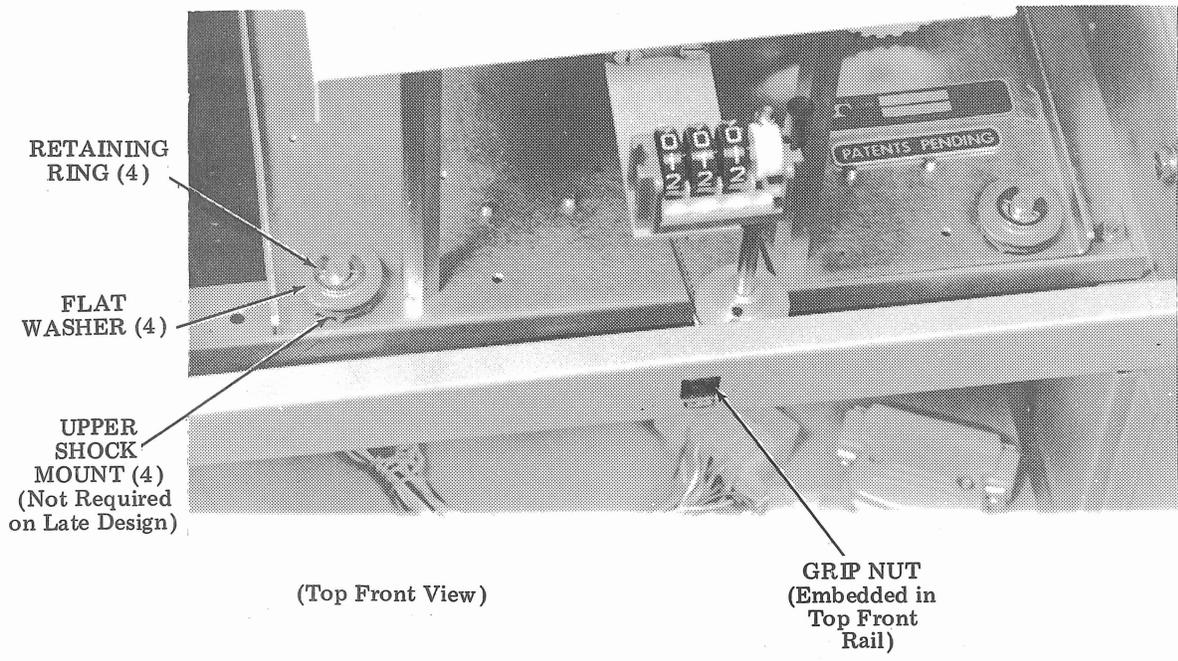

Figure 7 - Tape Transport Mounting Assembly; Top Cover Raised to Provide Access to Transport
→ (1) For stand-alone or 33/35/37/40 adjunct tape sets, remove the locking screw from the grip nut in the top front rail of the cabinet (Figure 7). For CDT or other parallel device adjunct sets, remove the screw, lock-washer, and flat washer (underside of flange at top of cabinet) that hold the cabinet top closed.
(2) Raise and latch the cabinet top.
(4) Remove the retaining ring, flat washer, and upper shock mount from the post at each corner of the tape transport base (Figure 7).
Note: Stand-alone or 33/35/37/40 adjunct shown in Figure 7, but CDT adjunct uses identical shock mounts.